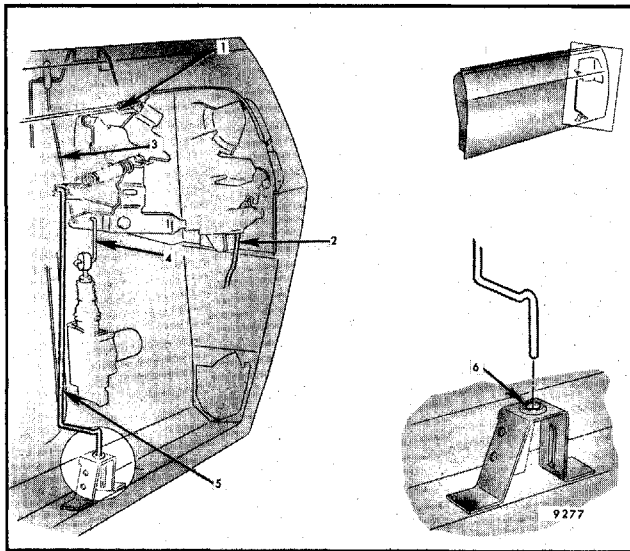

Fig. 7-144 - Right Upper Lock Connecting Rods
2. Disconnect from the right upper lock assembly all rods (Fig. 7-144).